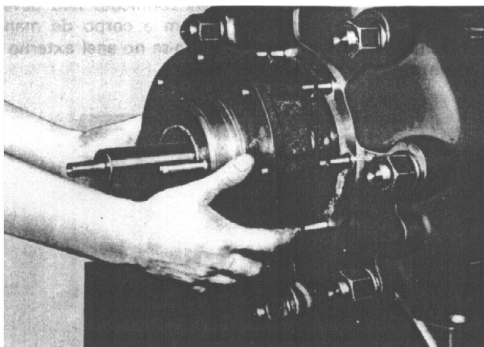

Fig. 8
- Extract the Gasket Gland, together with the Gasket Rings, which will be within it. (See fig. 8)